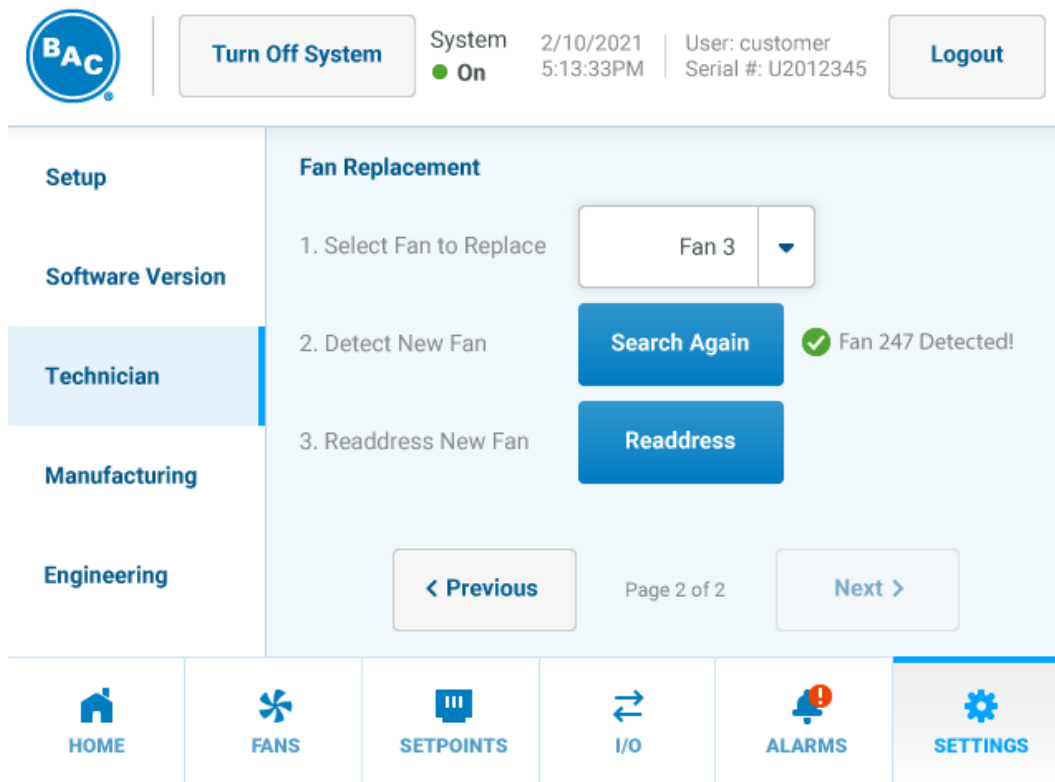

Figure 97. Settings Menu, Technician Page 2 of 2 Fan Detect
5. When the new fan has been detected, a green checkmark icon will appear as shown in **Figure 97**. Press the “Readdress” button. Next press the “Readdress Fan” button to confirm readdress. The selected fan will be readdressed.